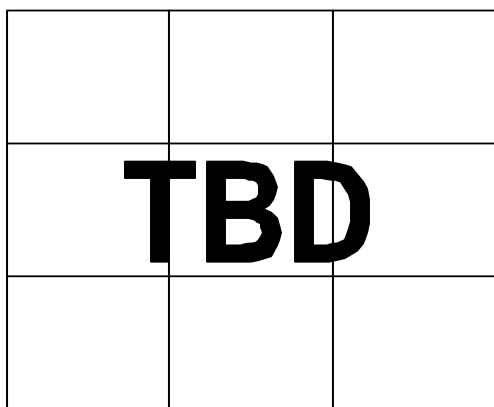

Figure 66. Evaluation Board Full Power Bandwidth
- **AIN:** The evaluation board is set up for a transformer-coupled analog input with optimum 50 Ω impedance matching out to 18 MHz (see Figure 66). For a different bandwidth response, change the 22 pF capacitor at the LNA (LI-x) analog input.